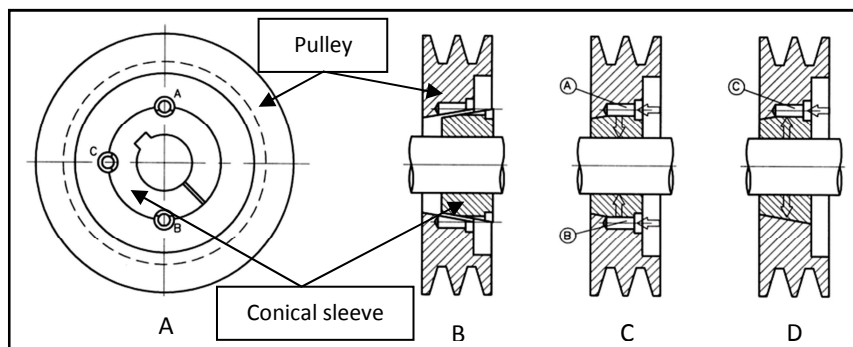

Figure 15 Scheme for the mounting of a pulley with conical socket.
To help both in understanding that into the carrying out the operations referred to in this section see Figure 15.
- PLACE THE SCREWS "A" AND "B" WITHOUT TIGHTENING, figure 15, Detail "A";
- FIT THE PULLEY AND THE CONICAL SLEEVE SET ON THE SHAFT, figure 15, Detail "B";
- FULLY TIGHTEN THE SCREWS "A" AND "B", figure 15, Detail "C";
- REMOVE THE SCREWS "A" AND "B" FROM THEIR SITE, Figure 15, Detail "A";
- REMOVE THE SCREWS IN C, Figure 15, Detail "A", TILL WHEN THE HUB IS LOOSENEED;;
- REMOVE THE PULLEY AND THE CONICAL SLEEVE, Figure 15, Detail "D", TAKING CARE TO NOT LET FALL THE CONICAL SLEEVE;